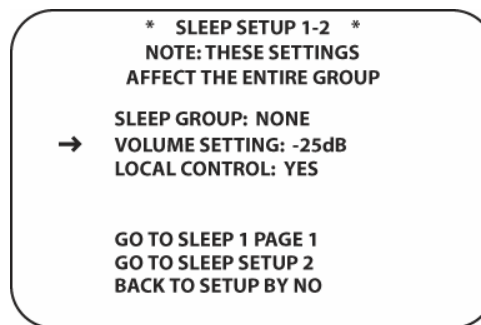

Figure 118 Sleep Setup 1-2
3. To continue Setup, press the **▼/▲ Navigation Button [oval 16]** to position the cursor next to **GO TO SLEEP 1 PAGE 2**. Press the **Set button [oval 18]**. The **SLEEP SETUP 1-2** screen will appear. (**Figure 118**)